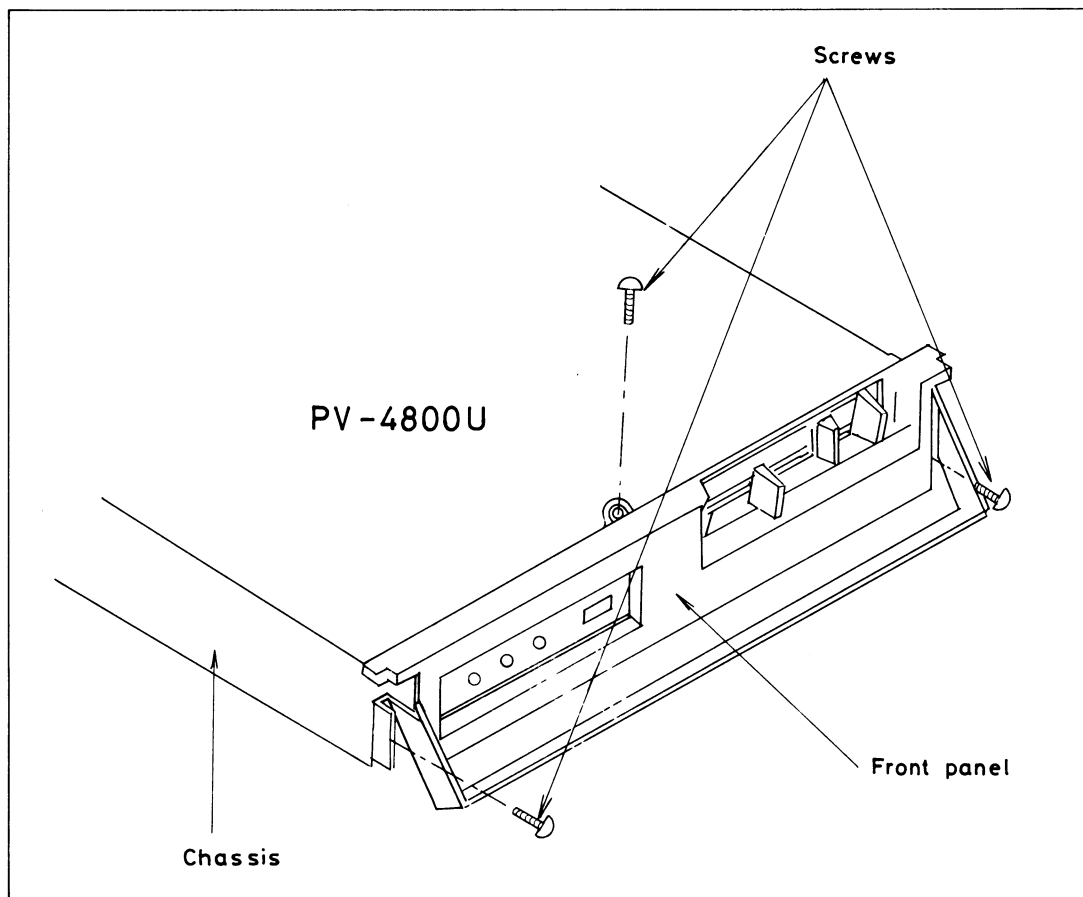

Fig. 6-6.
2. Remove the three screws on the front panel. Refer to Fig. 6-6.